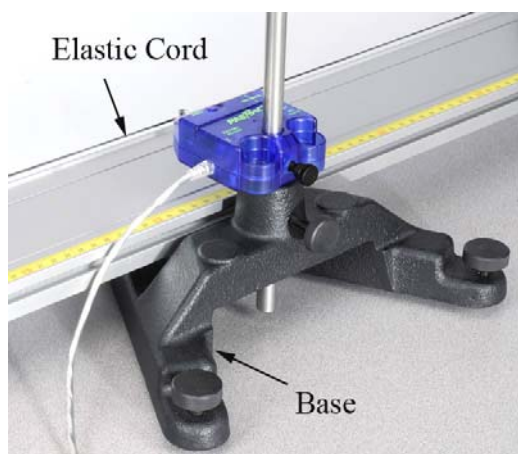

Figure 16: Notice how the Base slides under the Track. This allows the Force Sensor to reach clear to the middle of the Track.
7. Use the "Movable" Force Sensor to pull sideways on the cord (as before). Pulling at the center of the cord, adjust the force to achieve an angle of about 1° . Note that the Base slides under the track as shown in Figure 16. Tap the Force Sensor to make it oscillate to break loose the friction.